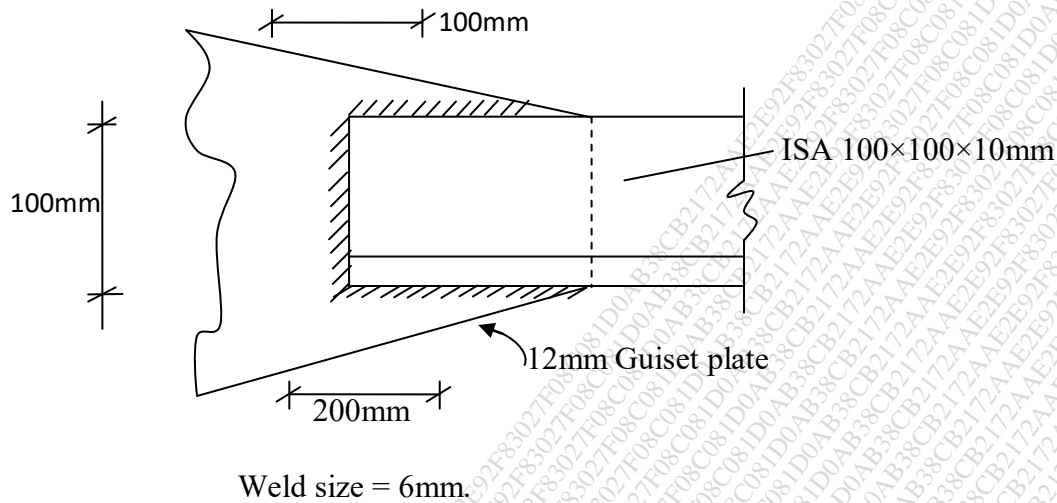

Figure 2
- Q.2 Determine the maximum load which can be applied to the fillet welds as shown in figure 2. Allowable shear stress in 108N/mm^2 . 15